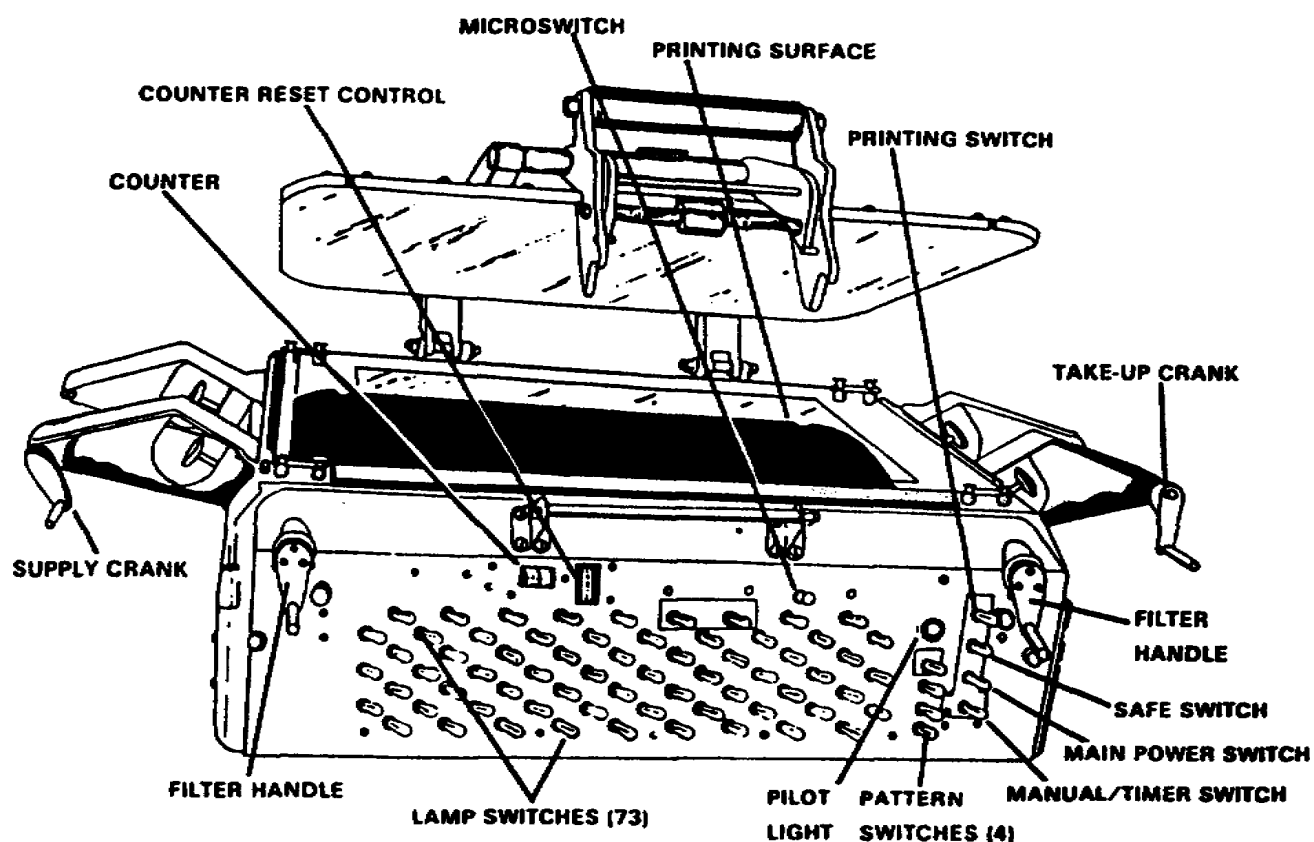

Figure 2-1. Photographic contact printer EN22A
c. The actual number of printing lamps in a single printer may be as great as 176. Each lamp is connected to an individual switch, permitting various numbers and combinations of lights to be turned on or off. In addition to the exposing lights, contact printers are equipped with safelights and white (viewing) lights. A typical Army contact printer is shown in Figure 2-1.